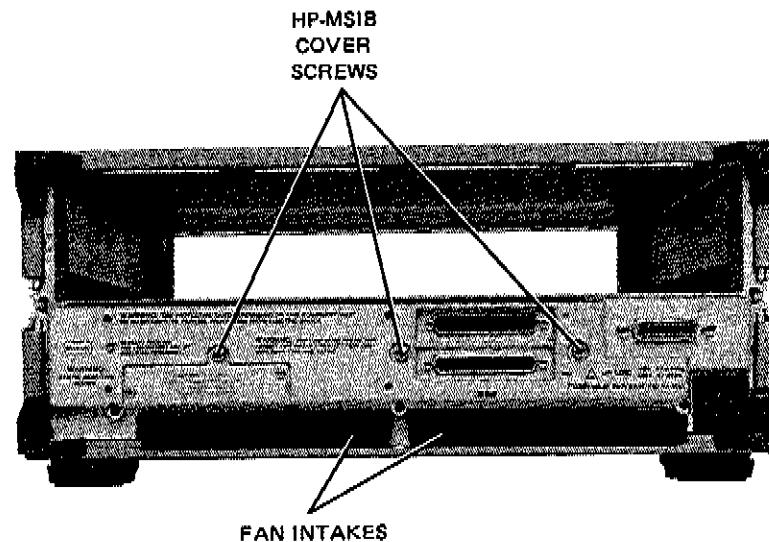

Figure 1. HP 70001A Mainframe Rear View
Verify the cooling fans are operating properly by checking for airflow into BOTH sections of the rear casting. See Figure 1, Assembly Repair.
1. Check back of instrument to see if fan intakes are blocked (see Assembly Repair, Figure 1).
1. HP-MSIB in reset mode. Remove service cover on back panel (see Assembly Repair, Figure 1). Look through service port and observe Red LED.
1. Turn instrument OFF (0).
2. Loosen three screws in HP-MSIB cover (see Figure 1) and remove cover.
To avoid damage when replacing the 3 HP-MSIB cover screws (Figure 1) **DO NOT TIGHTEN MORE THAN 6 INCH LBS.**